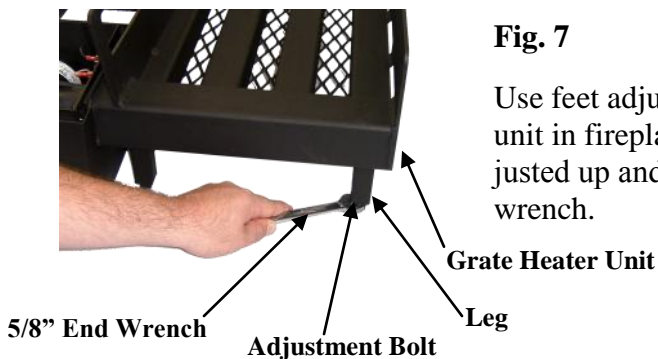

Fig. 7
- **Step 10.** Slide assembled unit into fireplace. Use feet adjustment bolts on bottom of feet to level unit in fireplace. **(Fig. 7)**